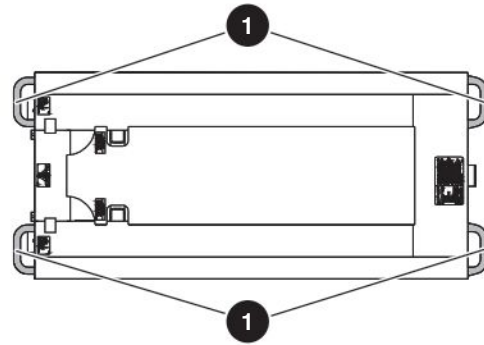
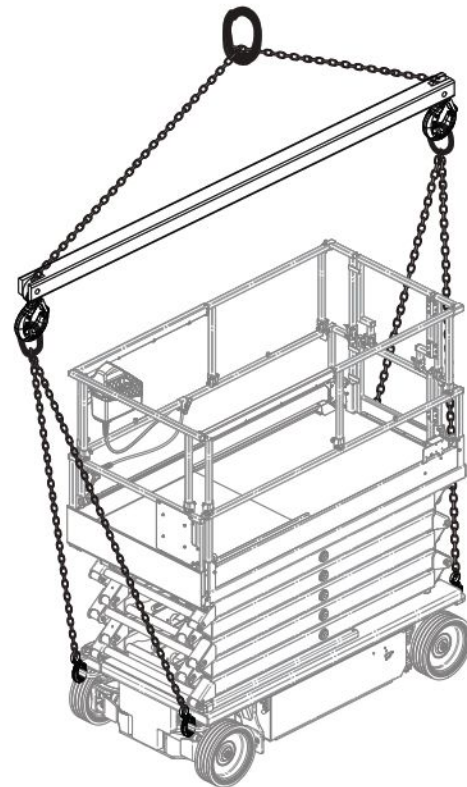
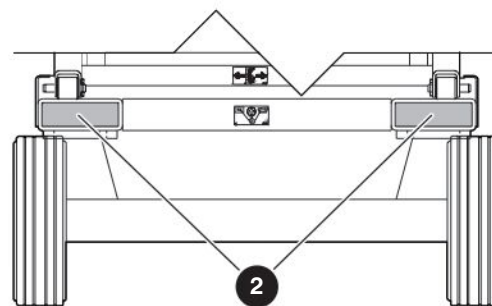

Figure 15 Lift and tie-down points
Figure 16 Appropriate method to hoist
Figure 17 Forklift pockets
- Attach the rigging to all **four lift points ①**, or lift with the forks in the designated **forklift pockets ②**. Refer to Figure 15, Figure 16, and Figure 17.
When you transport the MEWP, it must be attached to a truck or trailer deck. Use the available tie-down points ① to attach the MEWP. Refer to Figure 15. If you do not obey, there is a risk of death or serious injury.
- Tie-down the MEWP to the transport vehicle using the four tie-down points ①. Refer to Figure 15.